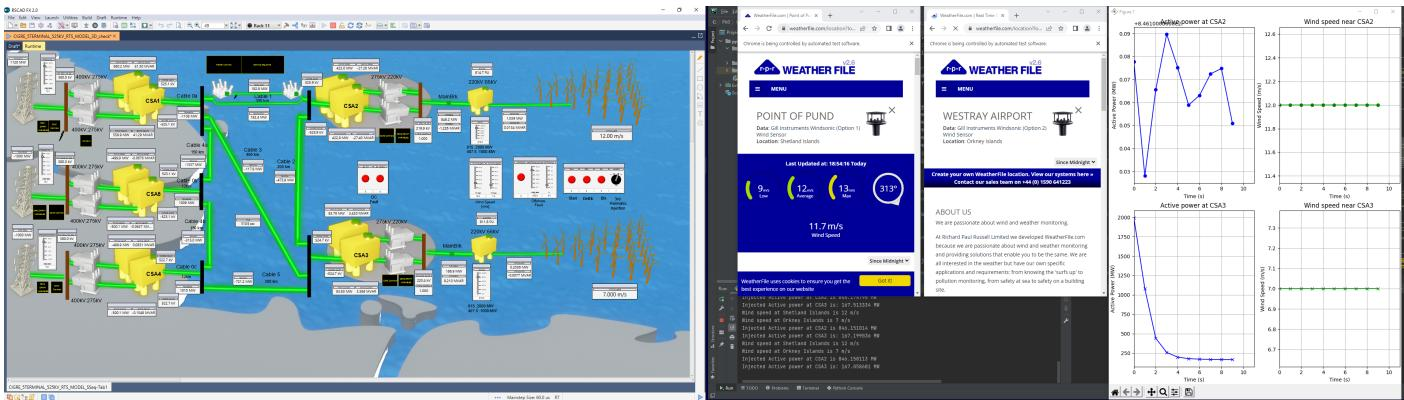

Figure 8 Screen short of SiL setup
Step 11: Now open and run the Real_time_wind_co_simulation.py. Upon running, you should get the following results as shown in Figure 8